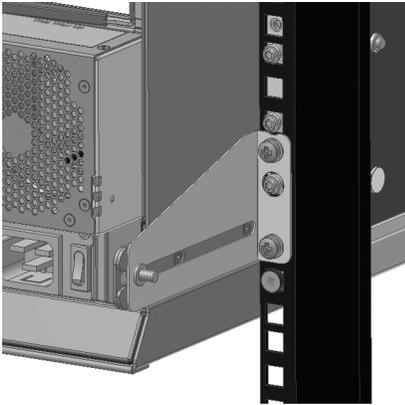

Figure 41. Rear Enclosure Mounting
2. Insert the long flange between the rack post and chassis side (see Figure 41 “Rear Enclosure Mounting” on page 40).